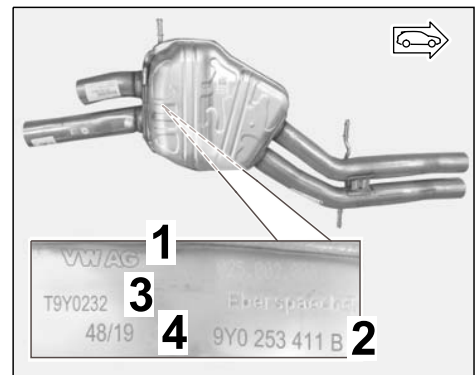

*Figure 4*
– Front silencer (⇒ *Figure 4*):